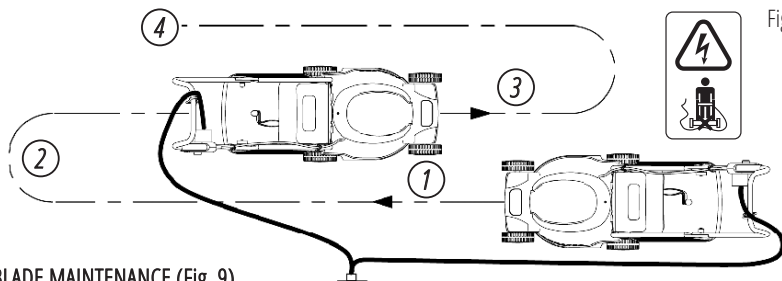

Fig. 8
MOWING (Fig. 8)
- Proceed as shown in Fig. 8.